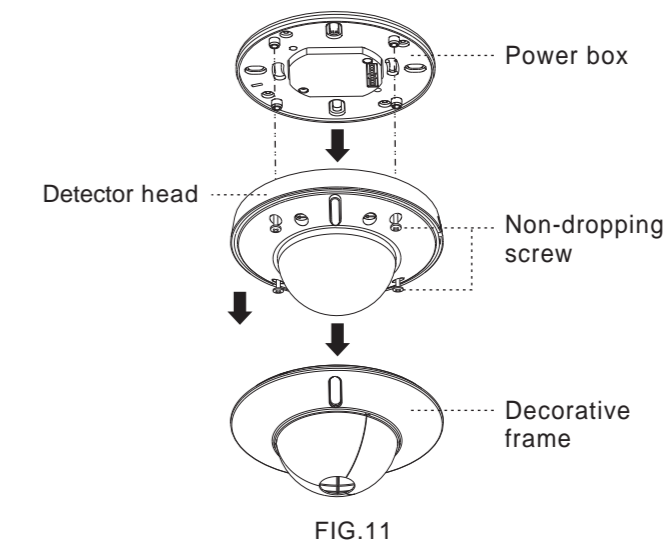

FIG.11
- 3.4.1.1 Take off decorative frame of OS-464Pi, then take the detector head apart from power box by unscrew its 4pcs non-dropping screws (See FIG.11).
- 3.4.1.4 Fix the detector head on power box by inserting its four non-dropping screws into the corresponding screw holes, then cover up the decorative frame (See FIG.11).